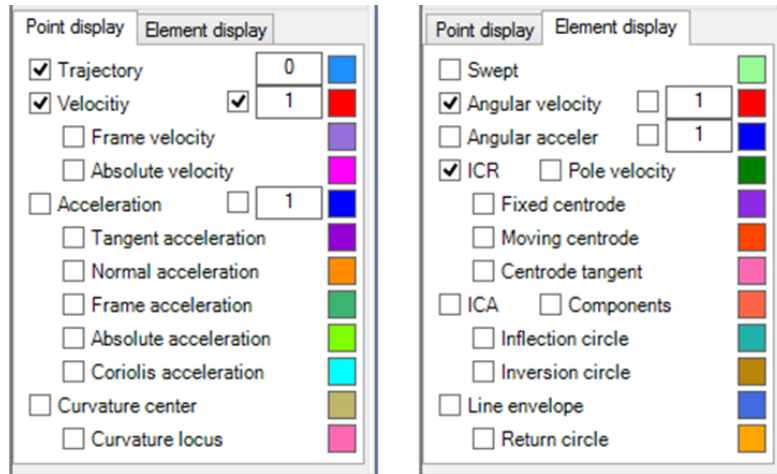

Figure 8: Kinematic properties included in Motion module
3. Two boxes named **Point display** and **Element display**, in which the kinematic properties related to points or elements of the mechanism are shown. This is the main part of the Motion module, as it contains all the options that can be visualized in relation to important kinematic features of the mechanism, as for example, velocities and accelerations, points' trajectory, Instantaneous Center of Rotation (ICR), fixed and moving polodes, main circles, and so on (see Fig. 8).
As stated in Section 2.2, in particular focusing on the options of Fig. 8, there exist two menus regarding the kinematic properties that can be obtained. On the one hand, in relation to **points** of interest of the mechanism (**Point display** menu), the following data can be displayed: